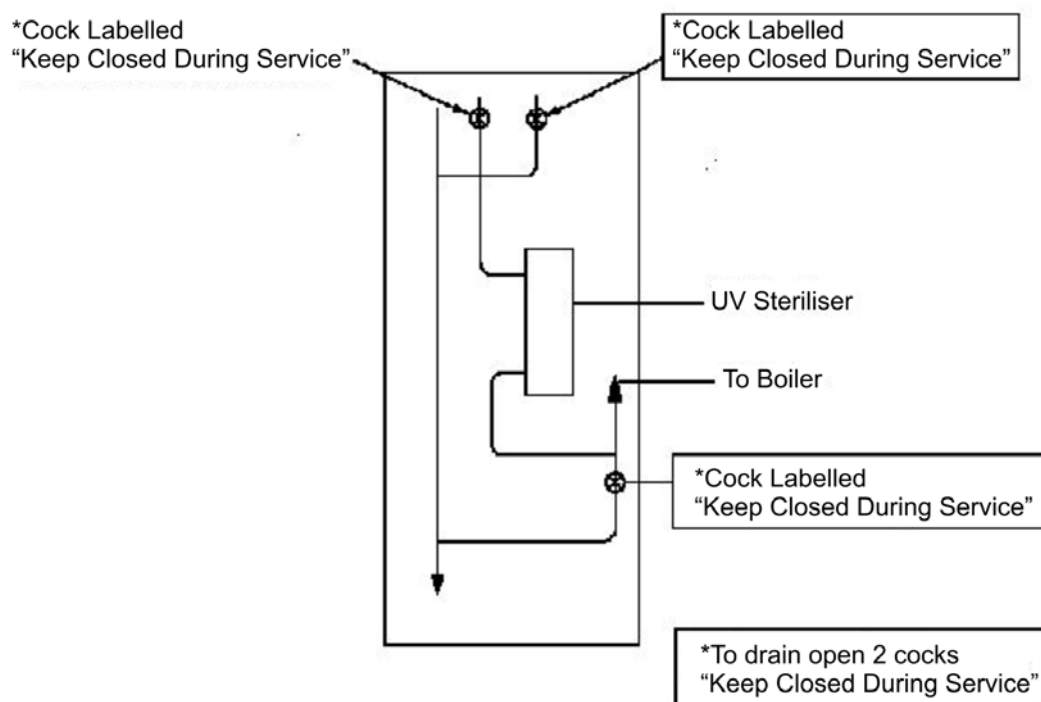

Figure 1.2: Location Of Drain Cocks In UV Steriliser Cupboard
2. Open the 2 wheel operated cocks (see note and see Figure 1.2).